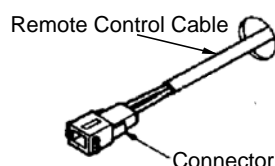

Fig. 2
3. When running cable through the access hole ensure the connector end of the cable is located nearest to the controller. (Fig.2)